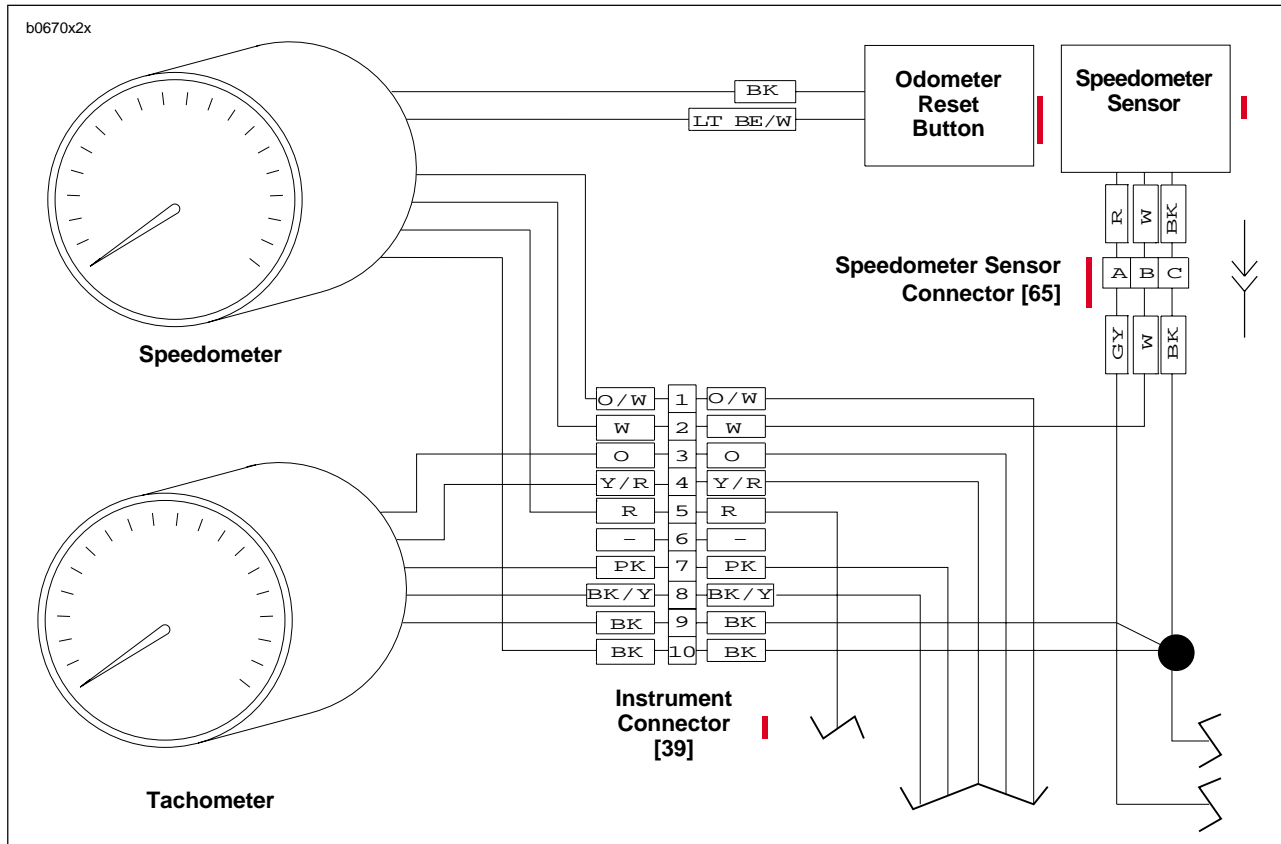

Figure 7-56. Speedometer Sensor Wiring
2. See Figure 7-56. Disconnect 3-place Deutsch connector [65] under battery tray.